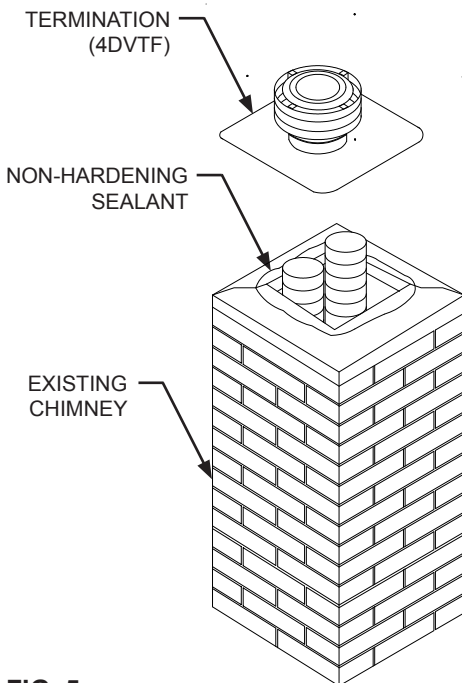

FIG. 5
Step 6. Attach the Flex Liner ends at the top of the chimney to the intake and exhaust flues of the termination using the attached gear clamps. Secure the termination baseplate to the surrounding masonry chimney using masonry anchor bolts. Before installing the baseplate, run a bead of non-hardening sealant between the baseplate and the masonry to prevent moisture from entering the chimney (See FIG. 5).